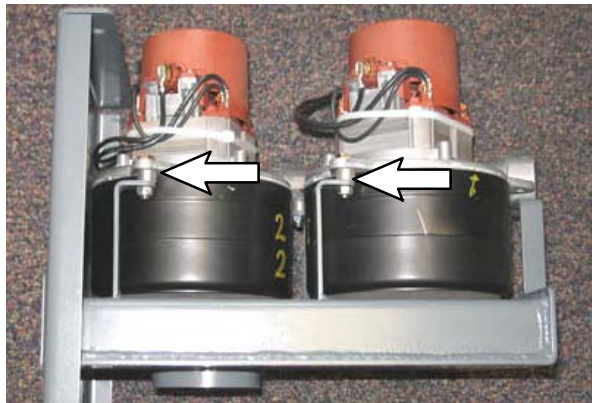

FIG. 2
NOTE: Install the three sleeves (5) between vacuum fan mounting brackets and vacuum fans (1) if installing kits on a machine equipped with dual vacuum fans mounted on brackets 3 in. or less in height. (Fig. 2)